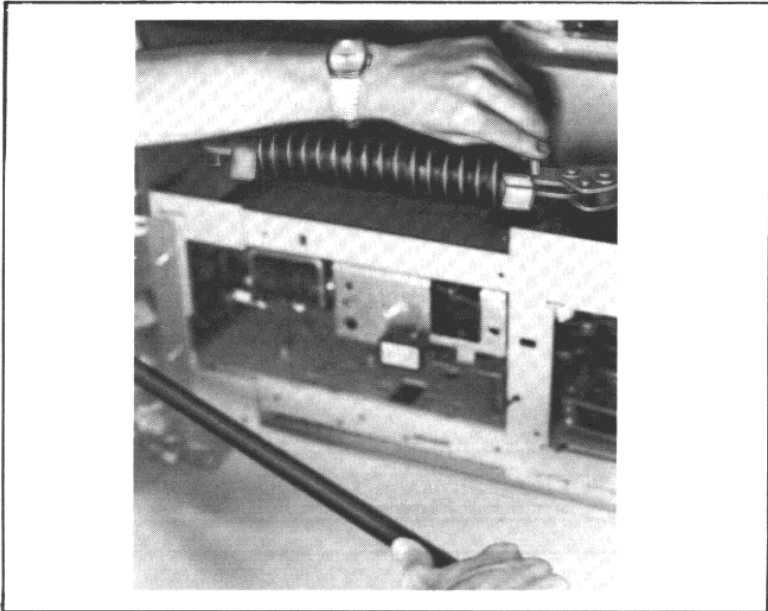

Figure 10
2. As shown in (Figure 10), charge the mechanism manually so that the right-hand holes are just barely accessible. This should be such that a pin may be inserted.